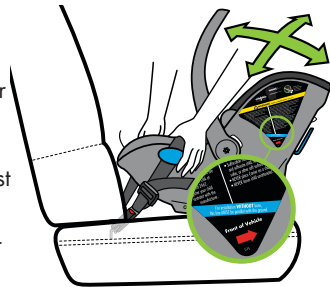

Figure 56
- Grip Carrier near blue UAS/Lap Belt Guides and pull Carrier side-to-side and front-to-back to check for secure installation, as shown in **Figure 56**. The Carrier should not move more than 2.5 cm (1 in.) at the belt path. Do not push down on Carrier near the child's feet when checking for movement.
- Verify that blue Recline Reference Line is parallel with ground, as shown in **Figure 56**. If not, loosen UAS Belt a small amount, adjust the recline of the Carrier, and go back to **Step 12**.